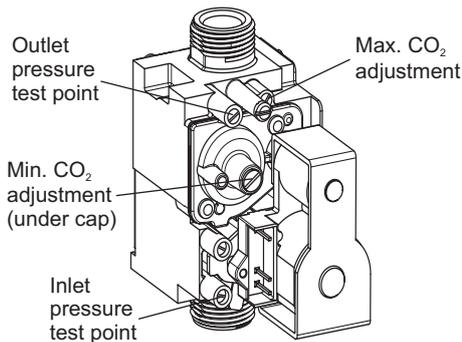

Fig. 27
2. Loosen the gas inlet pressure test point screw on the gas valve (see Fig. 27) and purge in accordance with BS 6891.
5.6 CHECK THE BURNER PRESSURES AND COMBUSTION - Figs. 27, 28